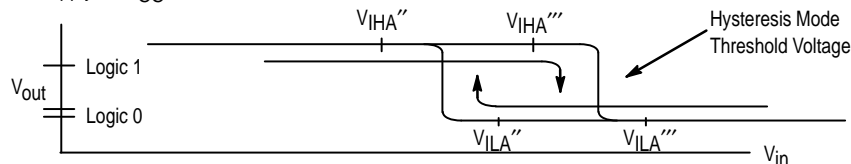

Figure 1. Hysteresis Mode Threshold Voltage
2. Output latched to logic high state prior to test. V_{IHA}' , V_{ILA}' are standard logic 1 and logic 0 MTTL threshold voltages. V_{IHA}'' , V_{ILA}'' , V_{IHA}''' and V_{ILA}''' are logic 1 and logic 0 threshold voltages in the hysteresis mode as shown in Figure 1 on page 3-2.
- Output latched to logic high state prior to test. V_{IHA'}, V_{ILA'} are standard logic 1 and logic 0 M TTL threshold voltages. V_{IHA''}, V_{ILA''}, V_{IHA'''} and V_{ILA'''} are logic 1 and logic 0 threshold voltages in the hysteresis mode as shown in Figure 1 on page 3-2.
- Output latched to logic high state prior to test. V_{IHA}' , V_{ILA}' are standard logic 1 and logic 0 M TTL threshold voltages. V_{IHA}'' , V_{ILA}'' , V_{IHA}''' and V_{ILA}''' are logic 1 and logic 0 threshold voltages in the hysteresis mode as shown in Figure 1 on page 3-2.